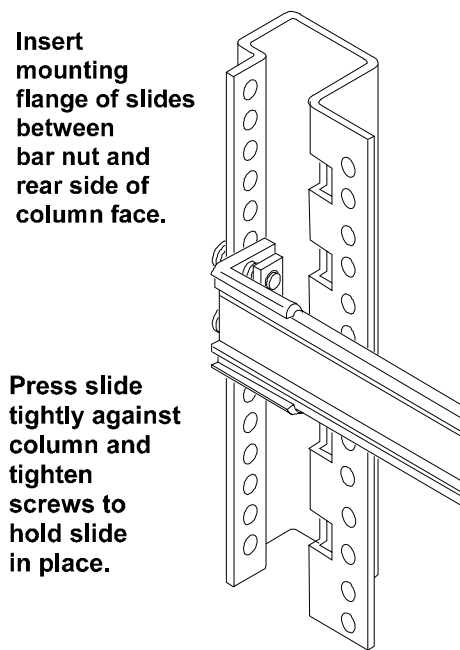

Figure 8-7. Securing Slide to the Rack Column
2. Insert the slide front and rear mounting flanges between the column and bar nuts. Press the slide firmly against each rack column (see Figure 8-7).